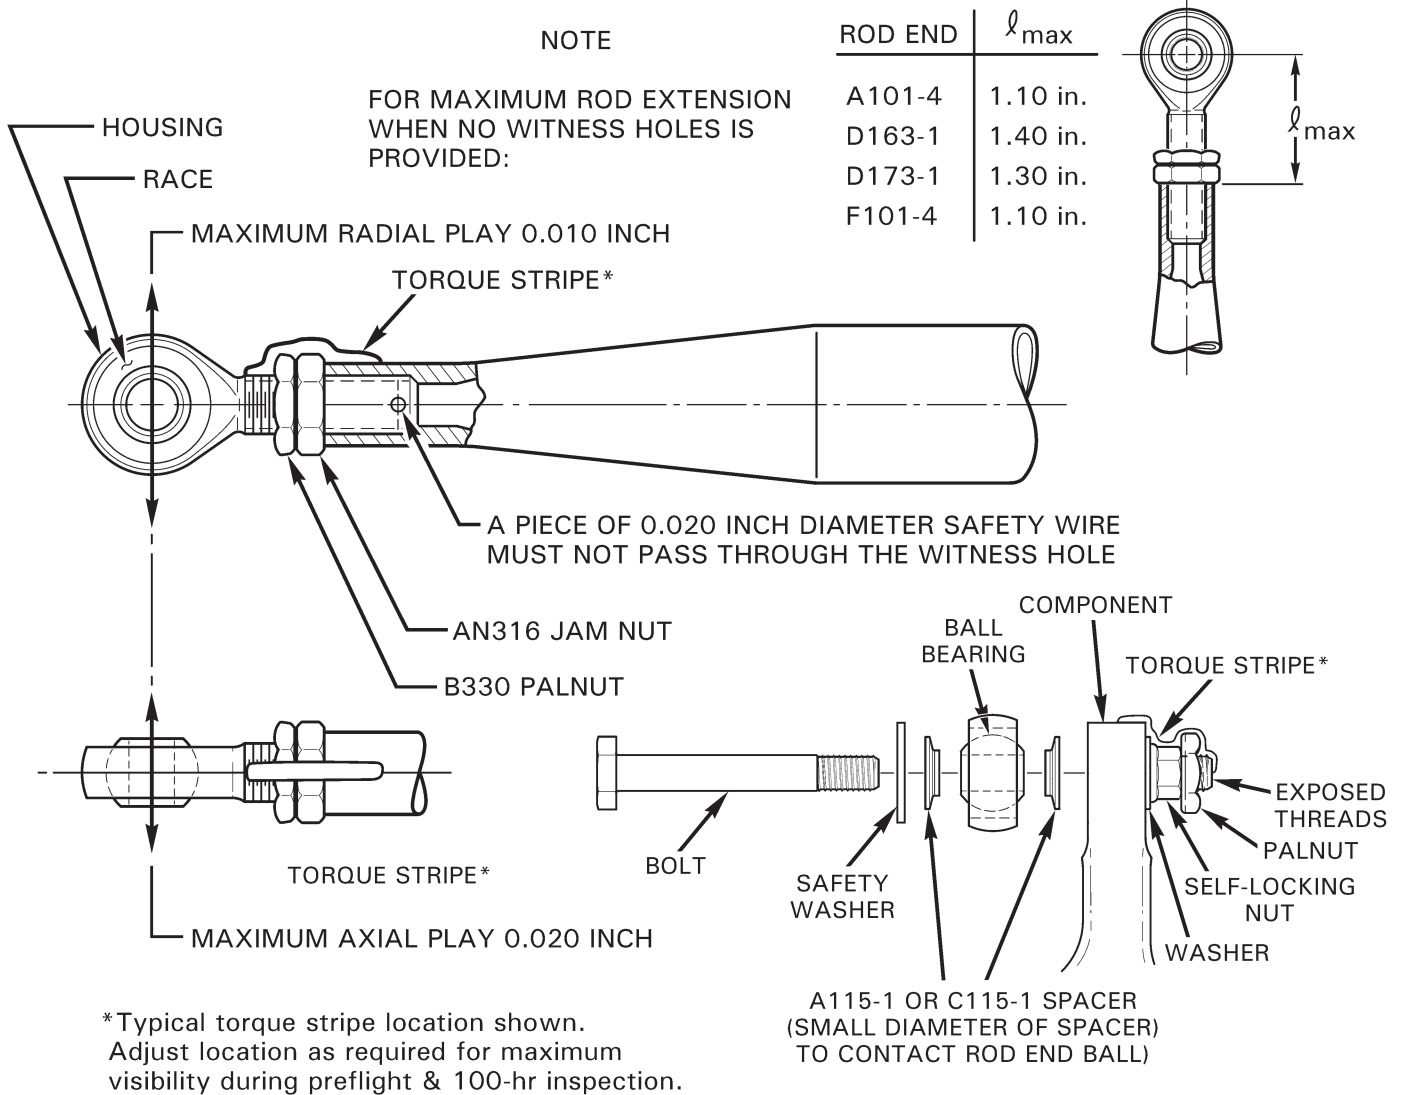

FIGURE 2-1 ROD END AND SPHERICAL BEARING PLAY LIMITS AND TORQUE STRIPE APPLICATION
2.410 Inspection Procedures and Checklist (continued)**8. Remove Tailcone Fairing (8) (continued)**
**Fasteners & Torque Stripes:** Inspect condition and verify security of all fasteners. Renew deteriorated torque stripes per Figure 2-1. \_\_\_\_\_
**10. Remove Plastic Cover (10)**